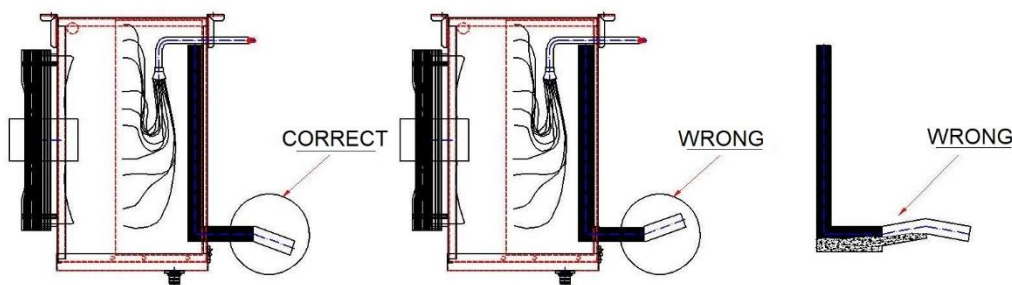

Figure-3 Piping Diagram
- Airflow should not be obstructed on the positioning. Positioning examples are shown in Figure-3.